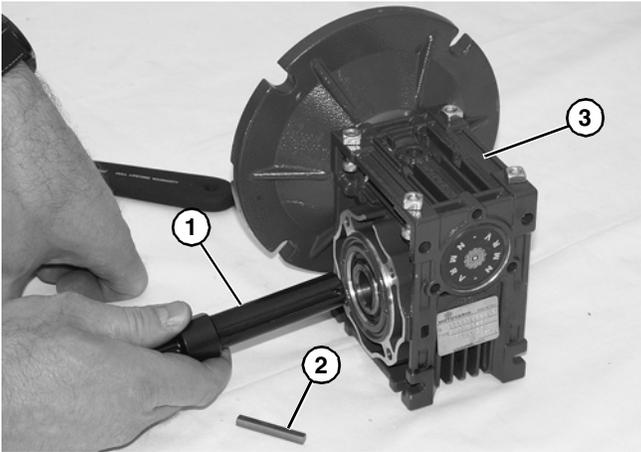

Figure 24
- Remove driveshaft (**Figure 24, item 1**) and key (**Figure 24, item 2**).
- Replace gear reducer (**Figure 24, item 3**).
- Replace the original shaft components into new gear reducer (**Figure 24**).